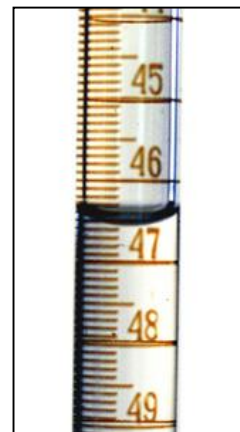

Figure 9 – **final volume**
4. Figure 9 shows the **final volume** of the solution after a particular lab experiment has been completed. What is the **final volume** that you would record in your data table.